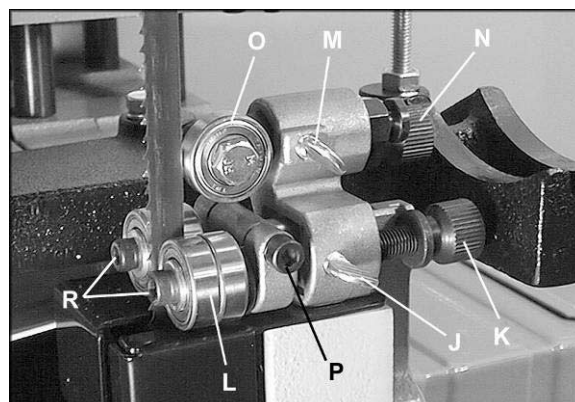

Figure 50
- Tighten thumb screw (G, Figure 50).
Refer to Figure 50.